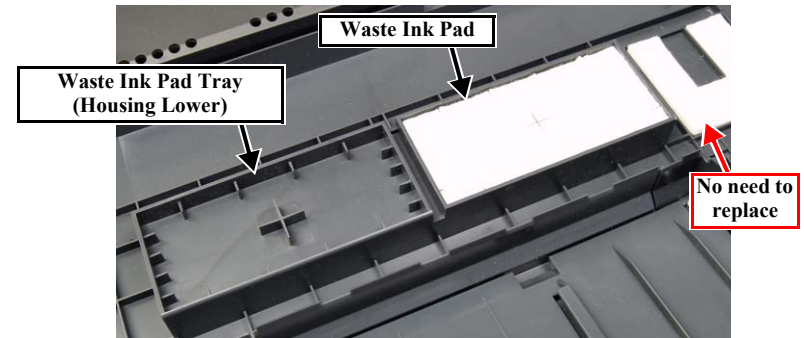

Figure 4-46. Removing the Waste Ink Pads
2. Remove Waste Ink Pads (x2) from the Housing Lower. (Fig. 4-46)